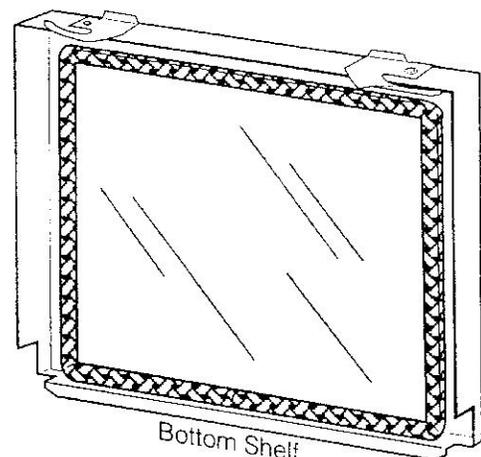

Figure 5-5. Rest the glass panel on the bottom, centered within the frame.
5. Orient the glass panel so that the **flat side** of the gasket contacts the sealant within the frame. The glass panel should be centered over the opening and resting on the bottom shelf of the frame. See Fig. 5-5.